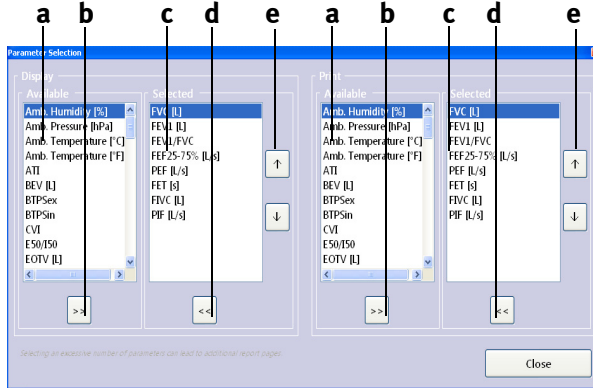

Fig. 8-10 FVC parameters tab
- e Click to select a parameter (See Fig. 8-10)
| <p>a Gas concentration for automatic termination of the test (default 2 %)</p> <p>b After the number of breaths specified at c the test either starts automatically or the "Activate" button will be displayed for manually starting the test</p> | <p>c Minimum number of breaths before the washout phase</p> <p>d Click to select parameters (see Fig. 8-10)</p> <p>e Choose the tracer curve format</p> <p>f Click to enable/disable tests linked with SVC</p> |